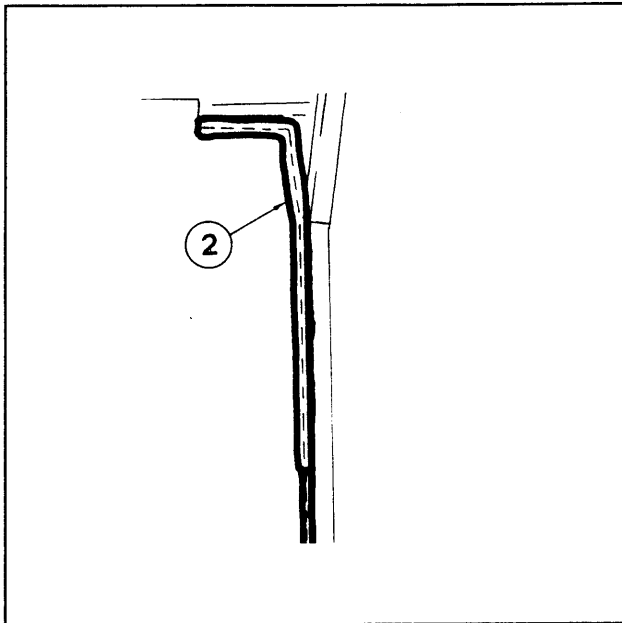

Figure 4
5. Move to the cab. Take the 180 degree O-rubber (2) and slide it onto the bottom lip along the left side of the cab. Beginning at the front of the door opening, work your way back, then up to the middle notch in the rear panel. (see Figure 4)